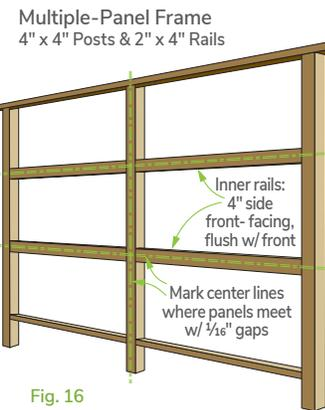

Fig. 16
2. **Multiple-Panels:** Construct frame of 4" x 4" posts and 2" x 4" rails. Draw center lines on the interior studs where panel edges will meet, with $\frac{1}{16}$ " expansion gaps (Fig. 16).